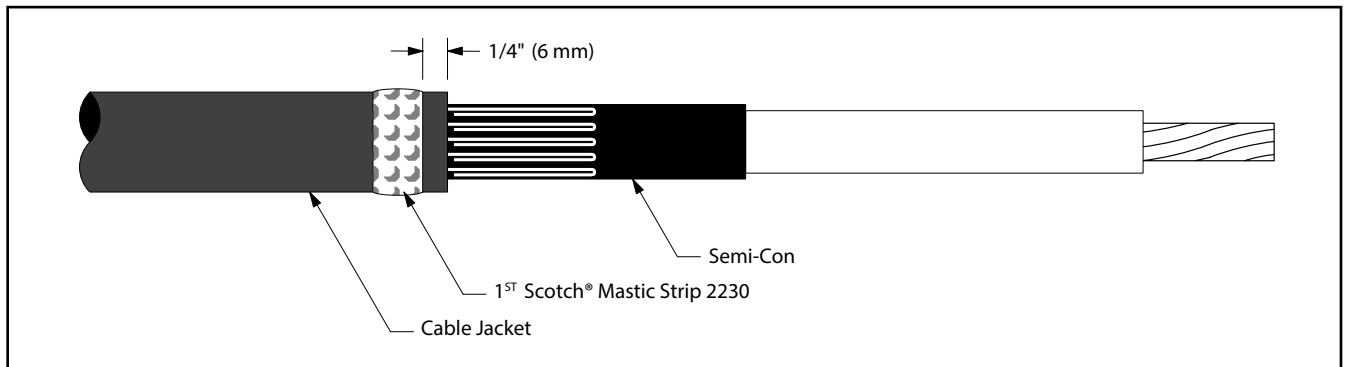

Figure 10
- 8.1 Select a Scotch® Mastic Strip 2230 from kit and remove white release liners. Using light tension, apply a **SINGLE WRAP** of mastic around the cable jacket 1/4" (6 mm) from cut edge (*Figure 10*). Cut off excess.